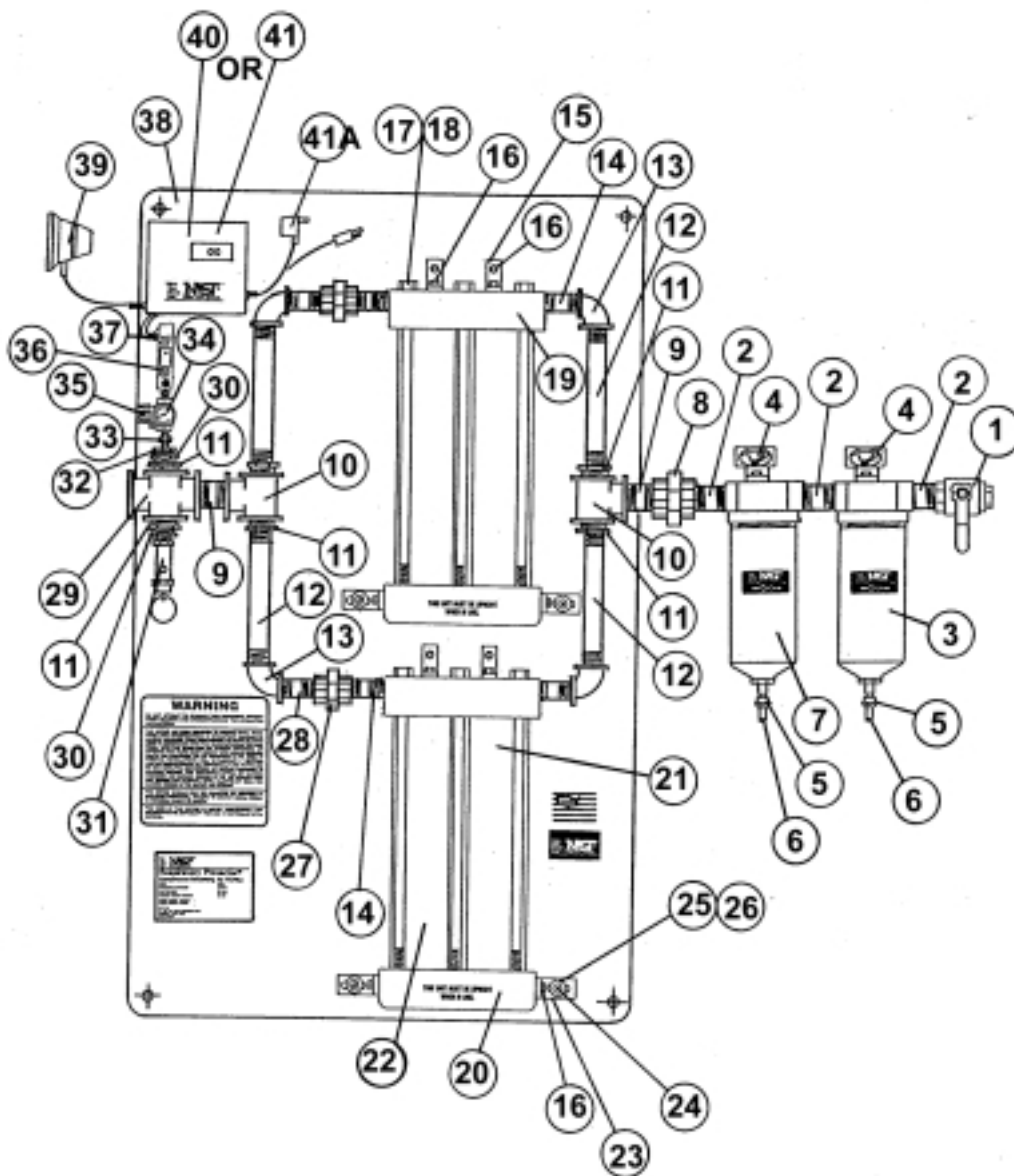

FIGURE NO. 7
**See following page, Figure No.7, for detailed drawing.**